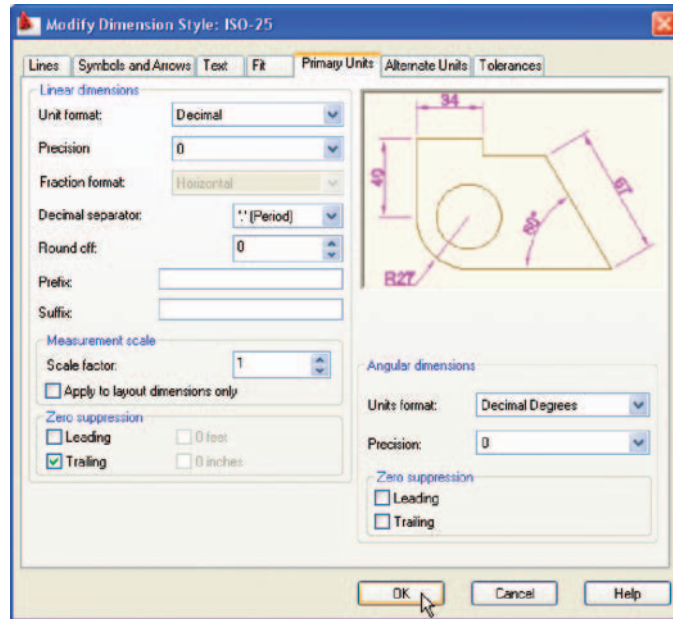

Fig. 4.12 Setting **Primary Units** in the **Dimension Style Manager**
5. The **Modify Dimension Style** dialog reappears (Fig. 4.12), *click* the **Symbols and Arrows** tab. Set **Arrow** size to **6**.
7. Then *click* the **Primary Units** tab and set the units **Precision** to **0**, that is no units after decimal point and **Decimal separator** to **Period**. *Click* the sub-dialogs **OK** button (Fig. 4.12).